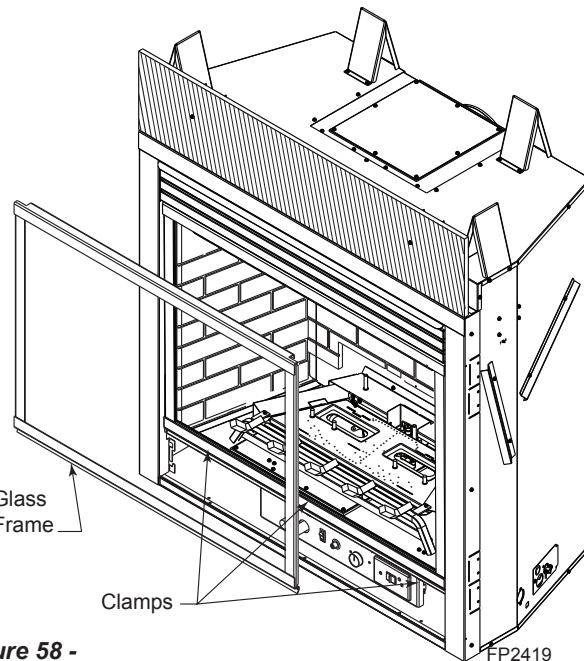

Figure 58 -
2. Release three (3) clamps on bottom of fireplace. *Figure 58*